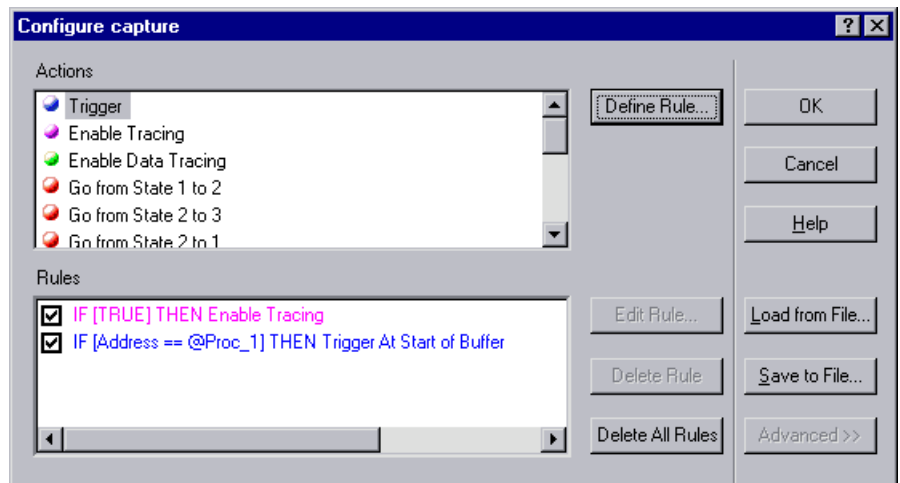

Figure 3-7 Trigger conditions
4. Specify the trace start conditions as shown in Figure 3-7.